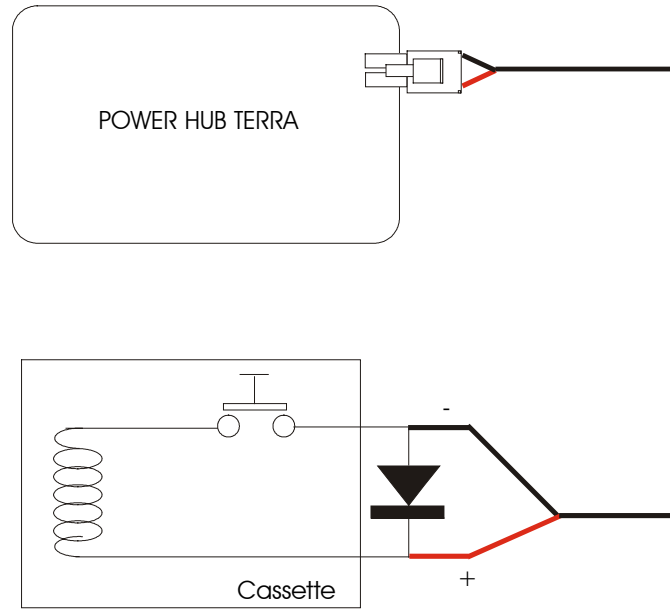

Figure 7 "Solution 2
- Install Zener interference inverter diode in parallel to the power supply as in Figure 7.
The simplest solution to adopt from an operative point of view is the one shown in the diagram in Figure 7.